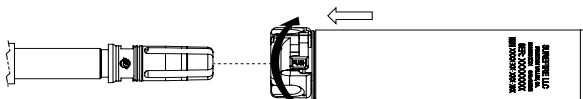
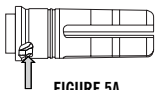
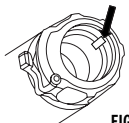

FIGURE 4
FIGURE 5A
FIGURE 5B
2. Rotate the lock ring, following the black arrow in Figure 4, to the unlocked position.
3. Slide the suppressor over the adapter following the white arrow in Figure 4. Rotate counterclockwise until the indexing slot on the suppressor (Figure 5B) lines up with and seats onto the indexing tab on the adapter (Figure 5A). **Ensure that the suppressor is fully seated onto the adapter.**